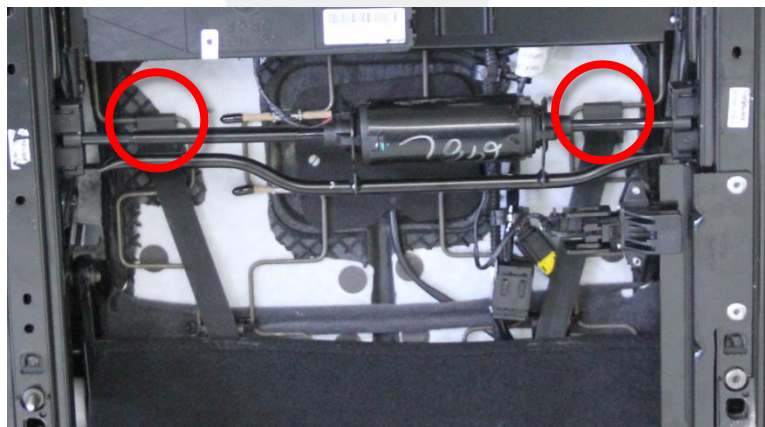

Figure 10
8. Hook the 2 upper seat cushion J-clips onto the flex mat (Figure 10).